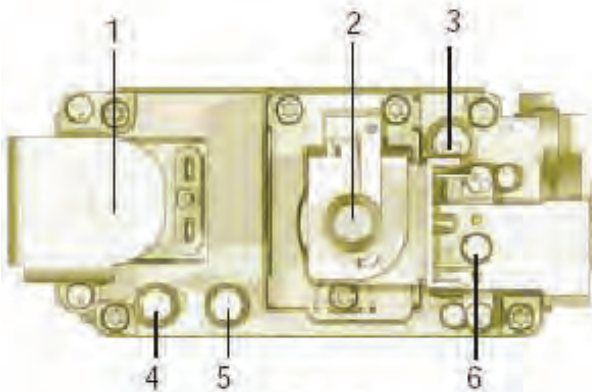

FIG. 2
ADEQUATE VENTING (FIGURE 2 FRONT VIEW)
1. To begin adjustment, the gas main supply pressure should first be checked on the inlet side of the regulator to confirm that sufficient pressure is being supplied. The screw for the supply pressure test point (labelled "4" in Fig 2.) can be removed and an appropriate fitting or hose used to connect to the test gauge. This should confirm pressure in excess of the required pressure of 8"WC. (2kPa). **Pressure above 24"WC (6.0kPa) will damage the valve.**
4. **Repeat step 1 with all other gas appliances in the kitchen also running at maximum capacity** to ensure the gas main is capable of the required flow. The screw for the supply pressure test point (labeled "4" in Fig 2) can be removed and the appropriate fitting or hose used to connect to the test gauge. This should confirm pressure in excess of the required pressure of 8"WC (2kPa). **Pressure above 24"WC (6.0kPa) will damage the valve**. If this reading is now below 8"WC (2kPa), the gas supply to the kitchen will need to be improved.
5. The next step is to replace the test point screw (labeled "4" in Fig 2). Re-tighten screws with 22 lb/in (2.5Nm) torque and remove the outlet pressure test screw (5 in Fig 2). Connect to the test gauge and check the pressure. This time you require a pressure of 4"WC. (1kPa). If this is not the case you will need to remove the plastic cap (C in fig. 4; twist anti-clockwise and pull up) over the adjustment screws and use a 10mm spanner to adjust the large nut. (B in fig. 4; clockwise for more pressure and vice-versa).
9. When the settings are correct replace the plastic cover (A in fig. 4) and the test point screw (5 in fig. 2).